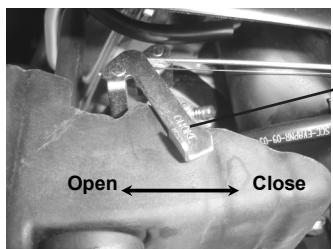

fig.12
2) Push the choke lever to the CLOSE position (Fig. 12)
5) If the choke lever is on the "CLOSE" position, please turn the choke lever to the "OPEN" position after engine runs 2 minutes. (Figure 12)